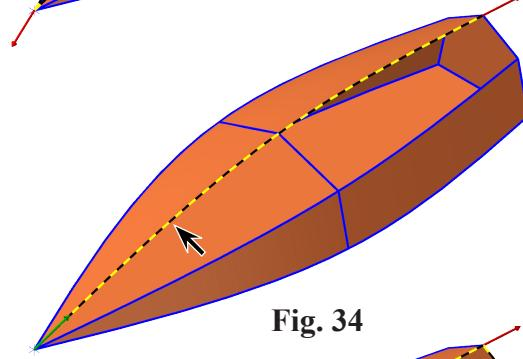

Fig. 34
Step 7. Click “keel” spline to select chain 1, Fig. 34.